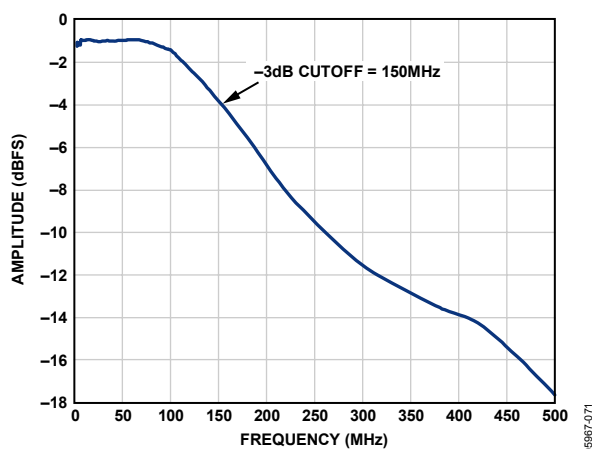

Figure 66. Evaluation Board Full Power Bandwidth, AD9222-50
- **AIN:** The evaluation board is set up for a transformer-coupled analog input with optimum 50  $\Omega$  impedance matching out to 150 MHz (see Figure 66). For more bandwidth response, the differential capacitor across the analog inputs can be changed or removed. The common mode of the analog inputs is developed from the center tap of the transformer or AVDD\_DUT/2.